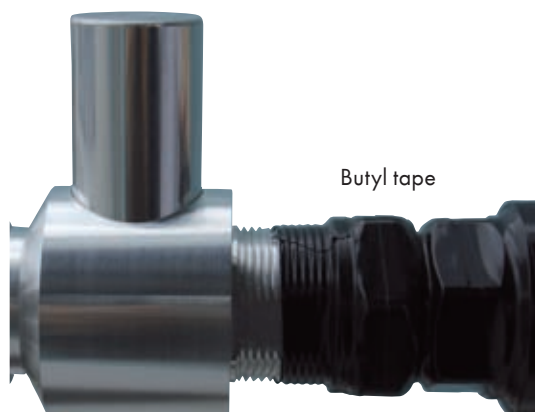

Fig. 2
- If it is not possible to comply with the above recommendation it is mandatory to protect the contact areas between forbidden metal combinations from moisture ingress. This can emerge when an aluminium EMP lightning protector is contacted to a connector interface made of other material. Narrow gaps and trends where humidity can penetrate must be protected by means of appropriate measures like taping, coating or sealing, see figure 2 (i.e. wrapping with self vulcanizing tape).